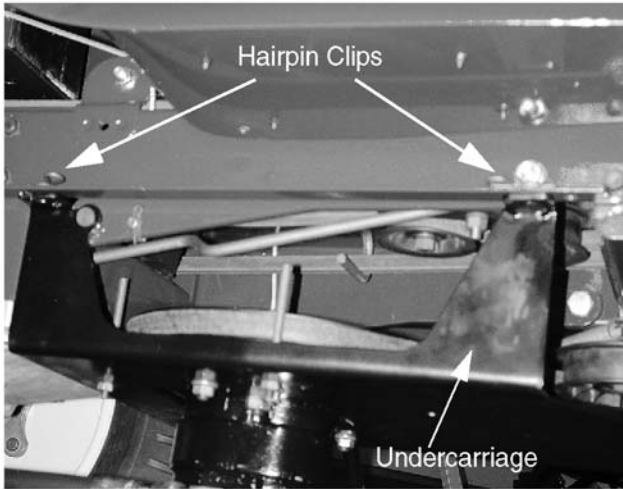

Figure 8-92.
9. Remove the four hairpin clips that fasten the undercarriage to the tractor frame. See Figure 8-92.